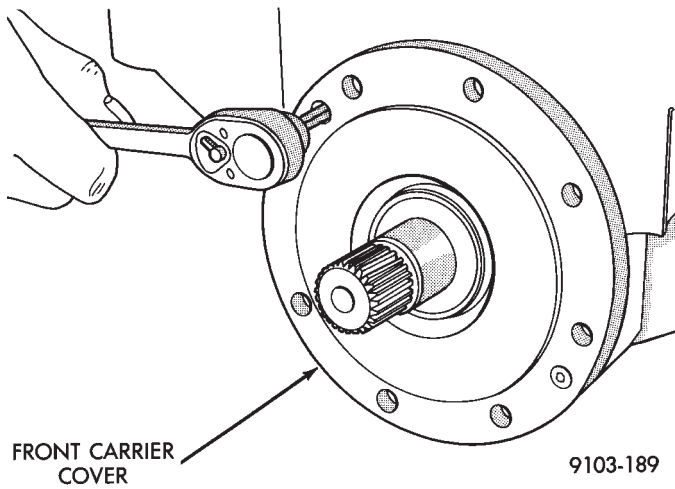

Fig. 6 Front Carrier Cover Retaining Screws
(7) Remove front carrier cover retaining screws (Fig. 6)